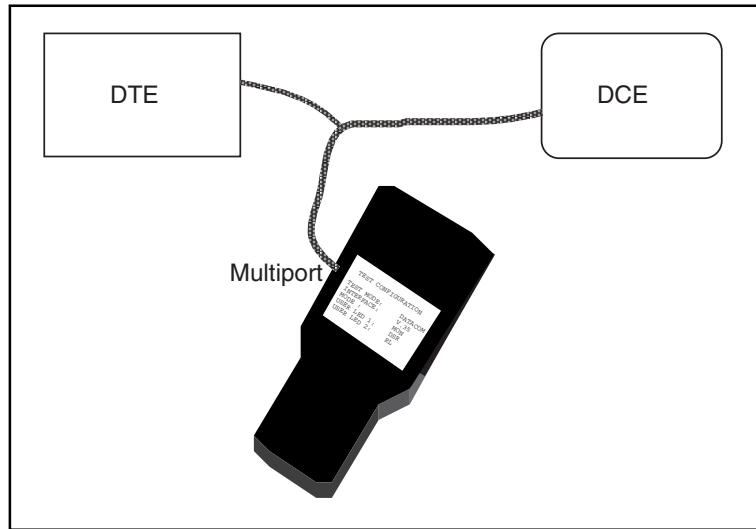

Figure 147 Monitoring Datacom
2) Connect the SunSet E20 to both the DCE and the DTE equipment, using a Y cable (SS255Y for RS449), as in Figure 147.